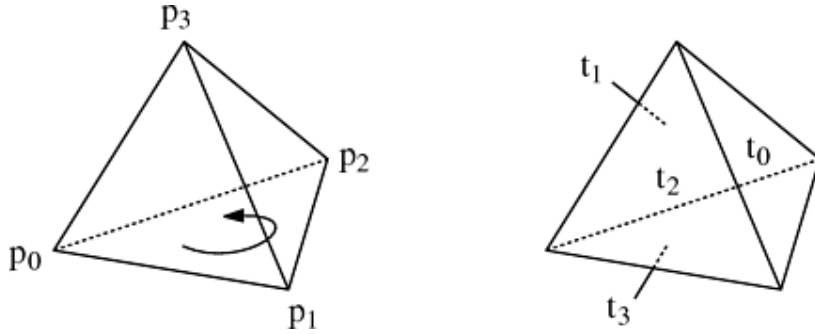

Figure 18.14: Numbering of points in a tetrahedron with positive volume (left). Numbering of the corresponding triangles (right).
- The `tetras` array describes the actual tetrahedra. For each tetrahedron, the indices of the four points and the indices of the four triangles it consists of are stored. The numbering of the points and triangles is shown in Figure 18.14. In particular, the fourth point is located above of the triangle defined by the first three points. Triangle number i is located opposite to point number i .